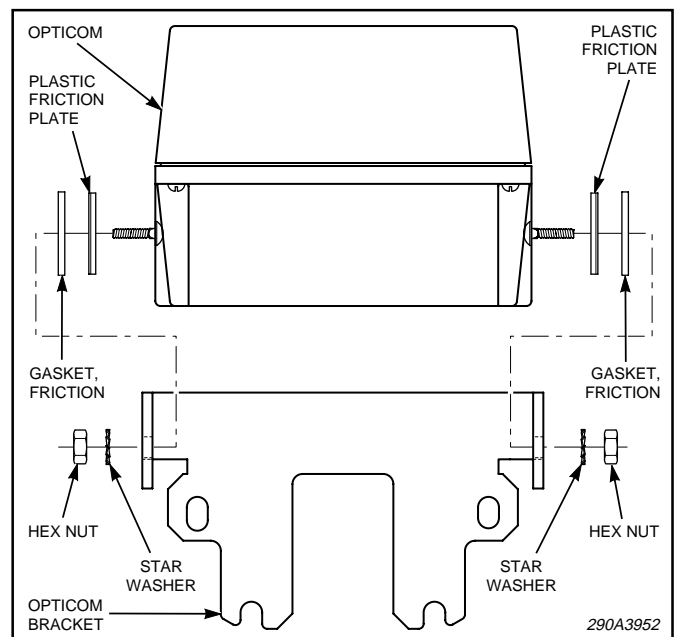

Figure 2.
5. Attach the friction gasket to the friction plate as shown in figure 2.
6. See figure 2. Install the emitter and complete the electrical connections as described in the instructions provided with the emitter.